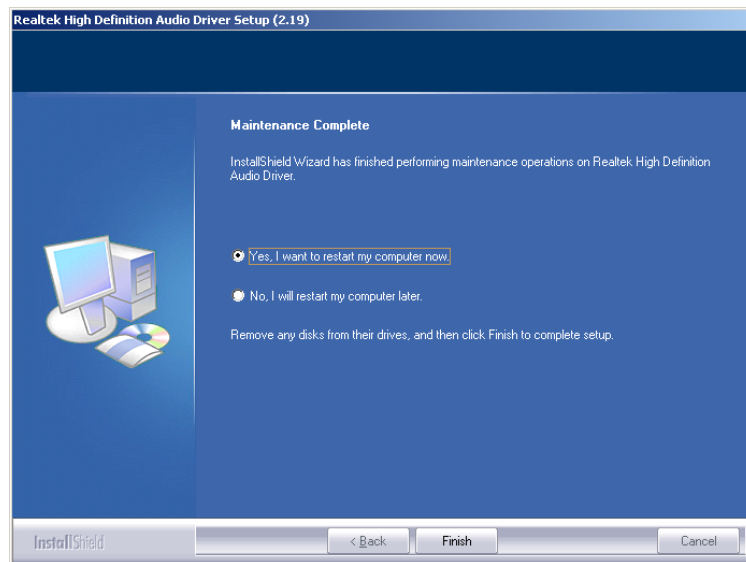

Figure 6-37: Restart the Computer
Step 10: After the driver installation process is complete, a confirmation screen appears (Figure 6-37).